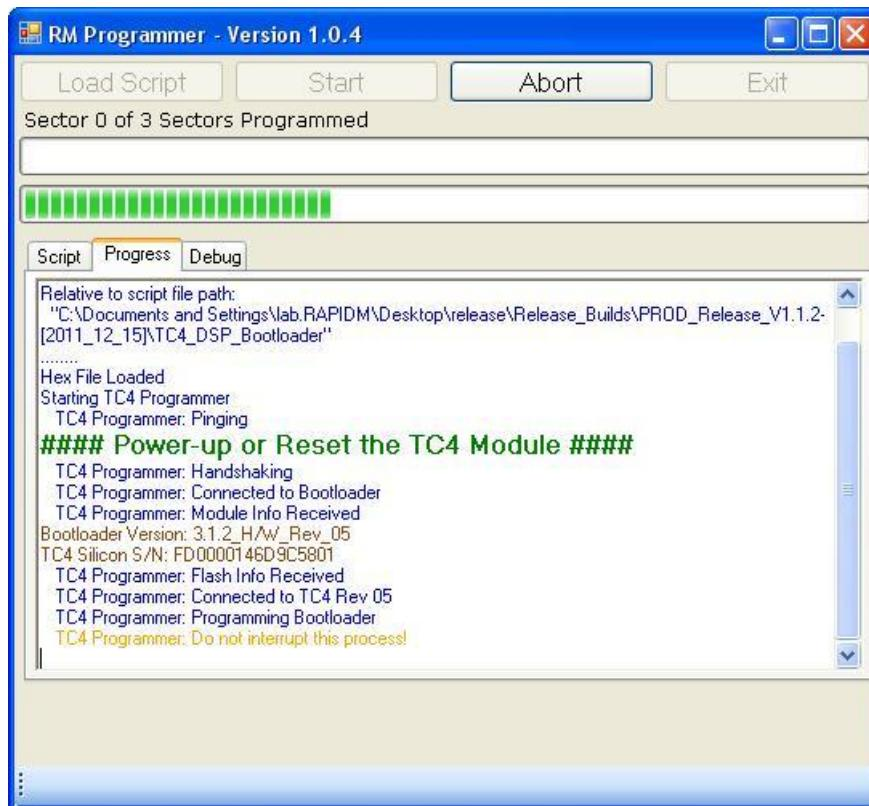

Figure 42: RM Programmer during TC4 Bootloader programming
- 7) Reset or power up the unit and the process will begin. During programming the a Programmer will advance through a number of sectors and the update progress will be displayed as shown in Figure 42.